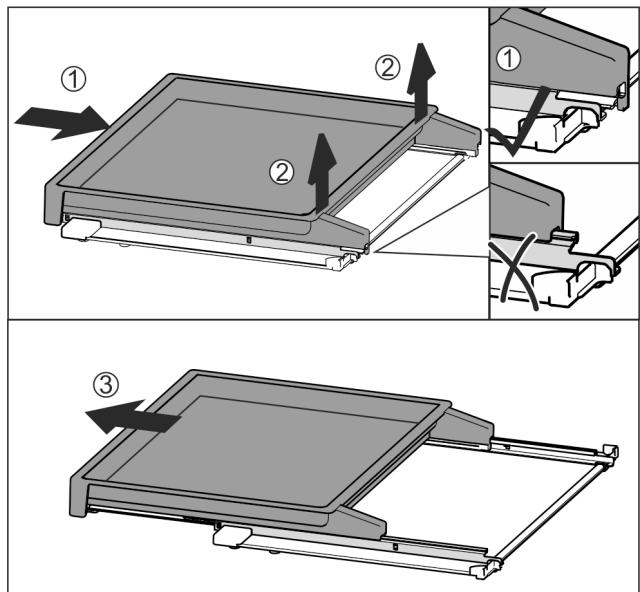

Fig. 32
- ▶ Slide the pull-out board all the way in *Fig. 32 (1)*.
- ▶ Release the clips at the back *Fig. 32 (2)*.
- ▶ Remove the pull-out board from the front *Fig. 32 (3)*.